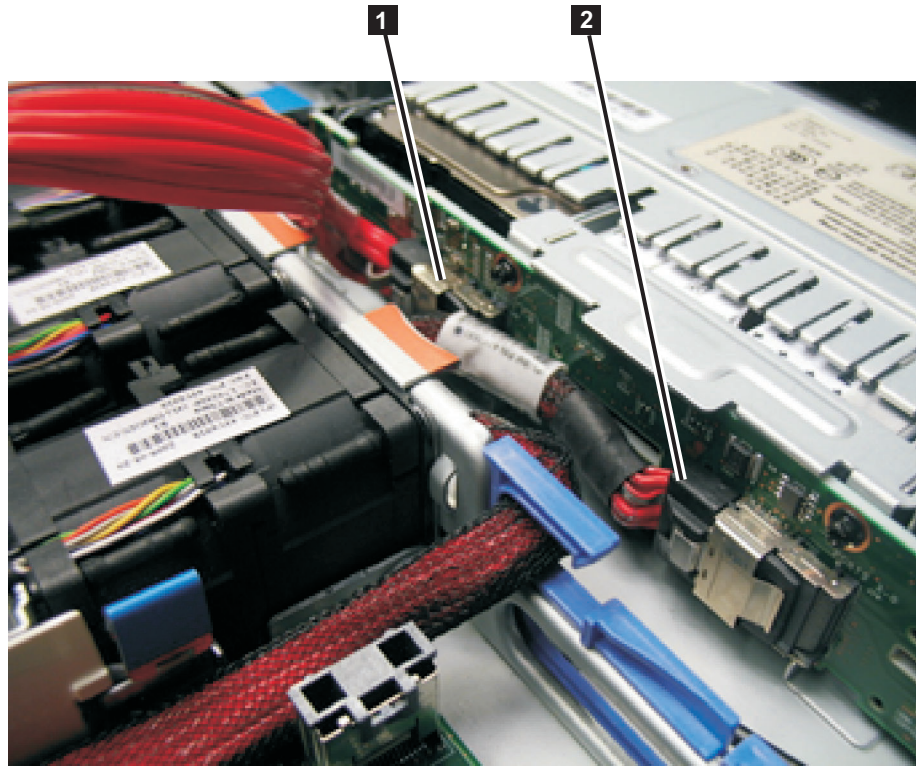

Figure 194. Boot-disk SAS cable and the high-speed SAS cable connected to the disk backplane in the SAN Volume Controller 2145-CF8
11. Disconnect the high-speed SAS cable from the SAS connector in the center of the back of the disk backplane, as shown in Figure 194 on page 209.